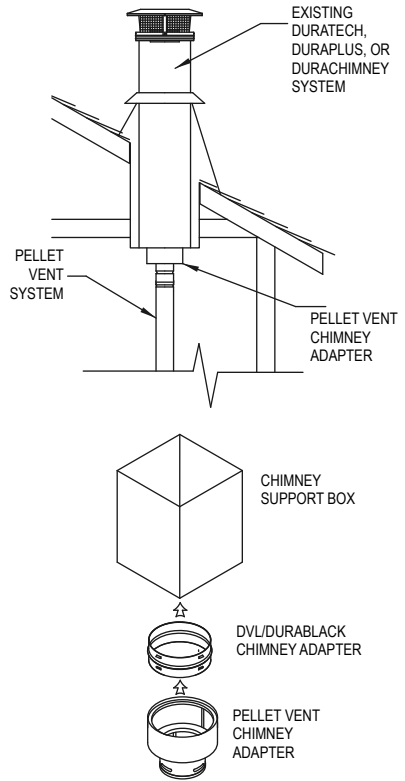

Figure 7
6. If it is desired to attach to an existing 6", 7" or 8" DuraTech, DuraPlus or DuraChimney chimney, either roof supported, or ceiling supported: (**Figure 7**).
C. Install a DVL/DuraBlack Chimney Adapter - product stock numbers (6") 8674, (7") 8774, or (8") 8874 - in the existing ceiling support box, as shown in **Figure 7**. Note that the DVL/DuraBlack Chimney Adapter only connects to Simpson Dura-Vent chimney systems.
the outer sleeve only in the center of the slots located at the bottom of the Adjustable Length pipe. Do not penetrate the inner liner. Use (3) 3/8" length sheet metal screws to secure the Adjustable Length pipe. The completed installation will look like **Figure 7**.